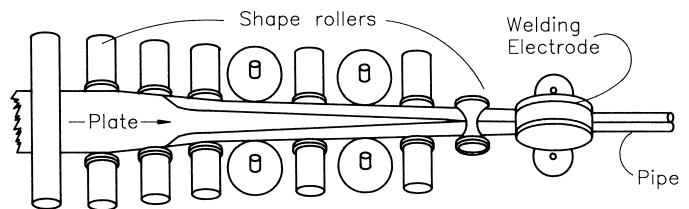

Figure 2-2. Butt-welded pipe.
**Butt-welded pipe** is formed by feeding hot steel plate through *shapers* that will roll it into a hollow circular shape. Forcibly squeezing the two ends of the plate together will produce a fused joint or seam. Figure 2-2 shows the steel plate as it begins the process of forming butt-welded pipe.